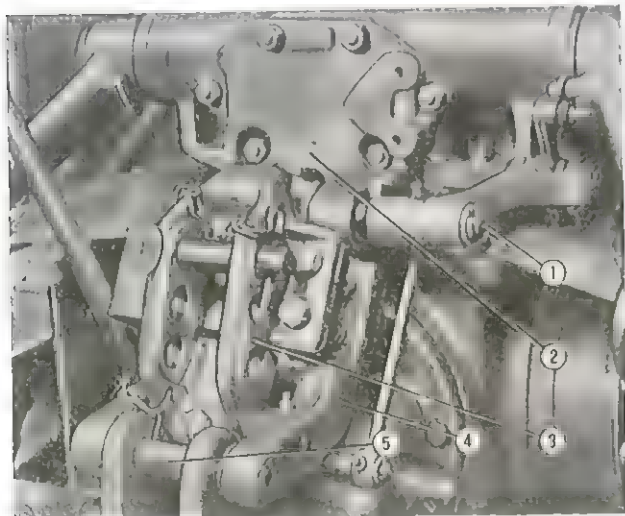

Fig. 77. - Hydraulic lift rear view.
Drain the oil from the lift (loosen the breather cap to facilitate the outflow of the oil) and detach the oil lines serving the hydraulic lift and its pump; pull the cotter pin and slide the lower shaft (5) out of the reaction strut (3, Fig. 77).
NOTE - The hydraulic lift can also be removed and more easily in two separate pieces by pulling out the shaft (1, Fig. 77), and so making it possible to free the whole reaction support with its spring from the lift casing.